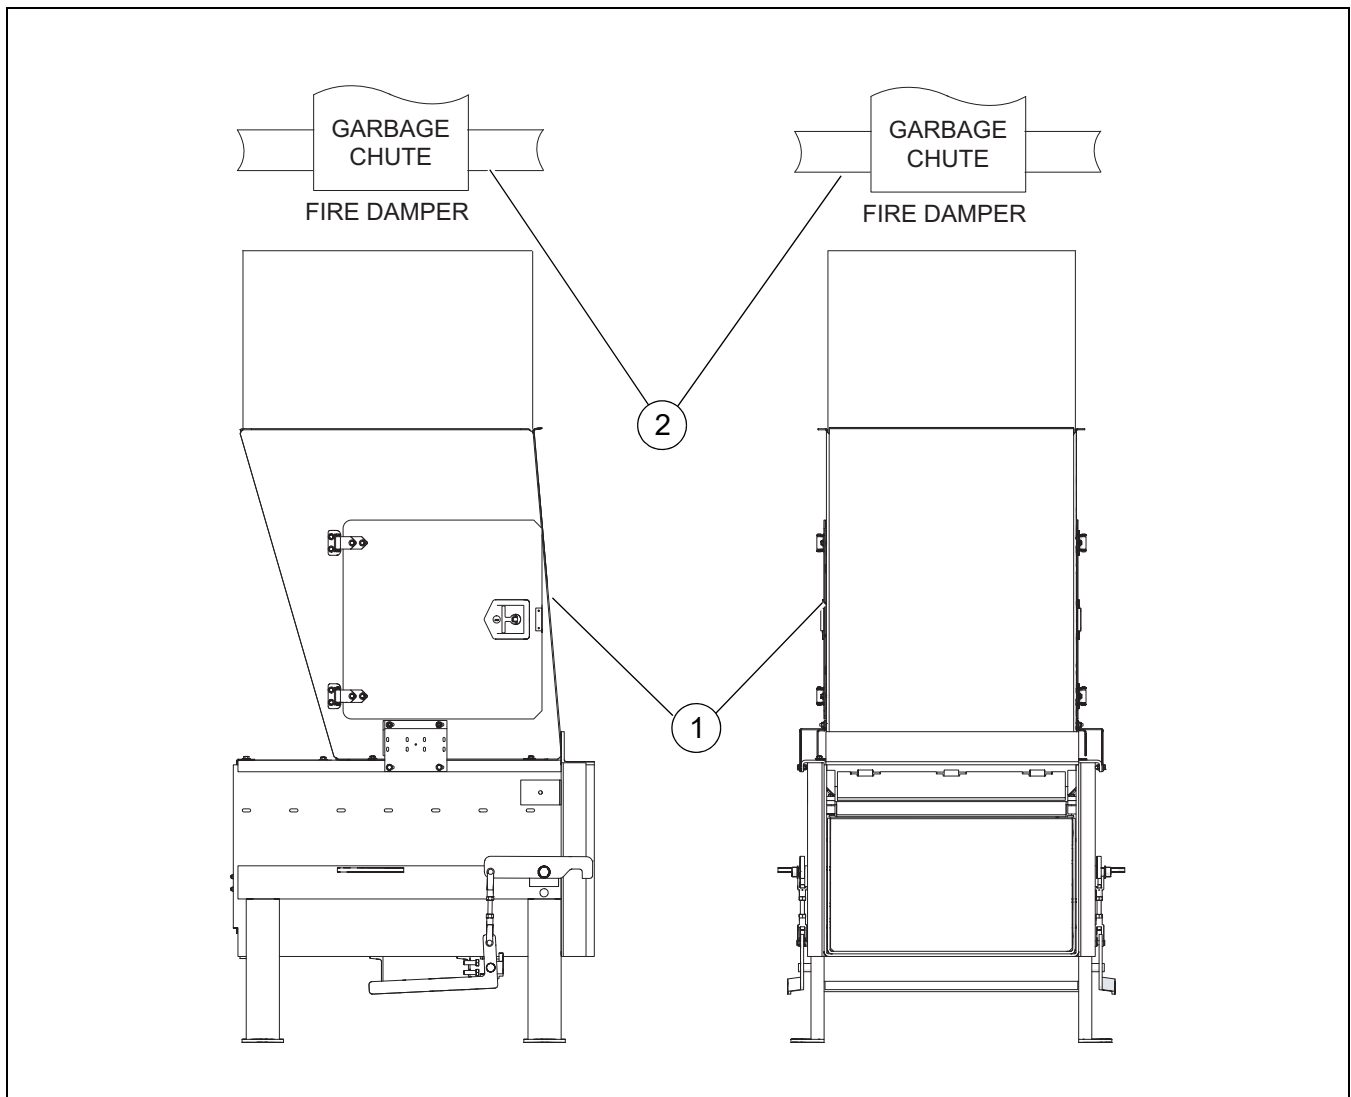

Figure 7
5. **Chute Installation:** The compactor is furnished with a hopper (**Figure 7, 1**) to adapt to an overhead trash chute. Install a chute extension as necessary. Make sure that a fire damper (**Figure 7, 2**) is provided and that all local fire codes have been followed when installing.